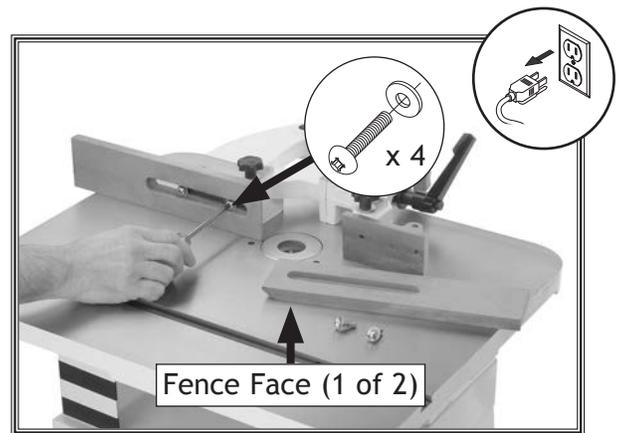

Figure 41. Removing fence faces.
2. Remove fence faces from fence assembly by removing (4) Phillips head screws and flat washers shown in Figure 41.